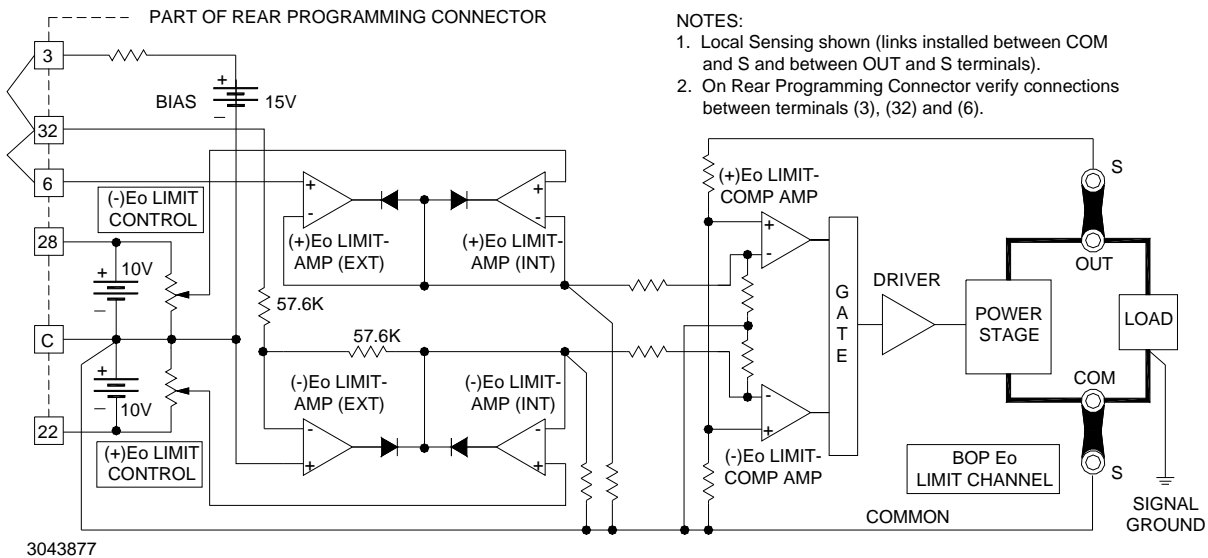

FIGURE 3-5. BOP (\pm) VOLTAGE LIMITING CIRCUIT (LOCAL CONTROL, LOCAL SENSING)
- (\pm) E_O Limit Circuits: see Figure 3-5 and PAR. 3.3.4 for local control.
Figure 3-5 shows the Voltage Limiting circuit configured for local sensing and local (front panel) control. The circuit functions in a manner similar to the I_O Limit circuit described previously (refer to PAR. 3.3.2), except that the voltage limit feedback is derived by means of a voltage divider across the BOP output.